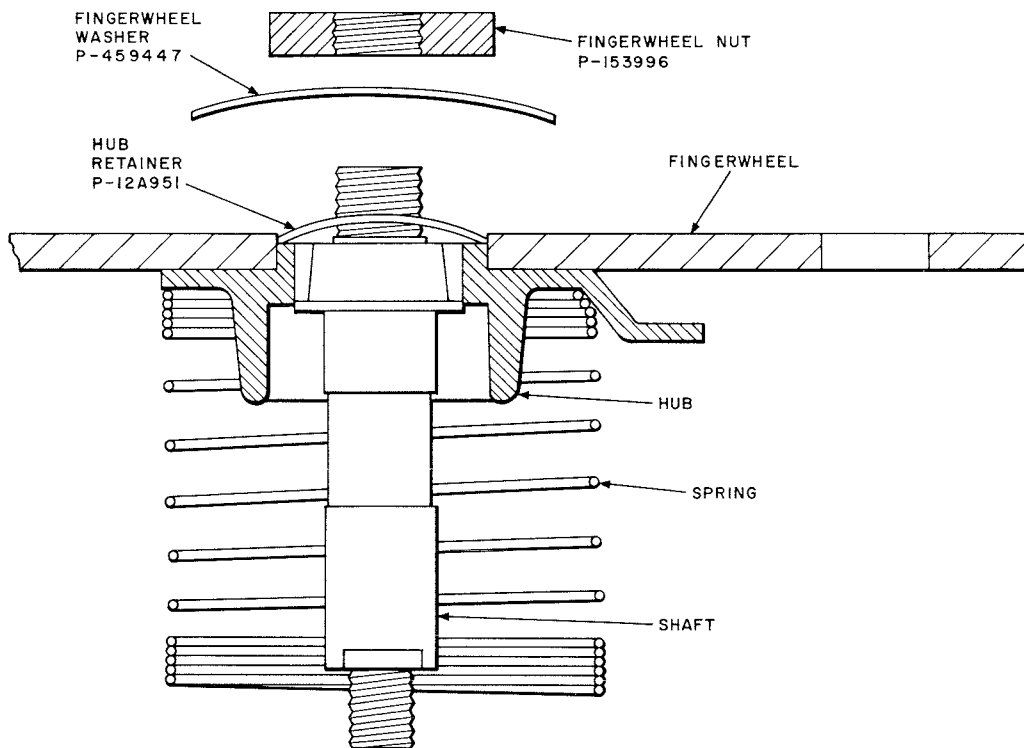

Fig. 13—Dial Hub Retainer and Spring Washer
3.20 If the fingerwheel is removed for any reason, fingerwheel washer P-459447 (if not already present) shall be placed between the fingerwheel and the fingerwheel nut, (Fig. 13) except when a plastic fingerwheel is used on 5-type dial.
3.21 If the fingerwheel is removed from a 6- or 7-type dial of early manufacture, install a P-12A951 hub retainer (Fig. 13) to prevent the motor spring and hub assembly from jumping out of its proper position. (Replace dial if this occurs.) Dials of later manufacture (identified by a black finish fingerwheel nut) have either been equipped with a retainer or the hub has been staked on the shaft.